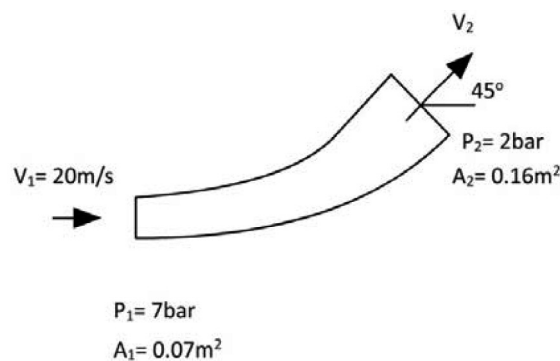

Figure Q2
- b) Water flows through an expander as shown in Figure Q2. The pressures at inlet and exit are 7 bar and 2 bar respectively. The flow cross sectional areas at inlet and exit are 0.07 m^2 and 0.16 m^2 respectively. The velocity at the inlet is 20 m/s . The expander is held in a vertical plane, and has a volume of 0.5 m^3 and a mass of 20 kg . (12 marks)